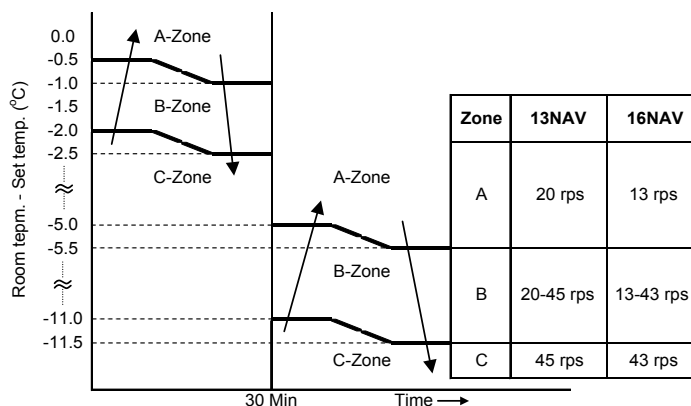

Fig. 8-2-10
- Compressor motor speed is controlled by the difference value of room temperature and set temperature as shown in Fig. 8-2-10